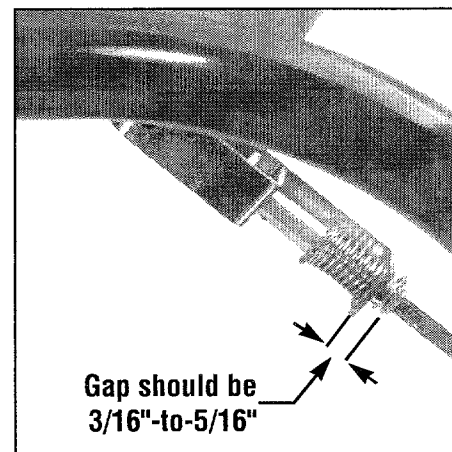

Figure 2-9: While squeezing Forward Clutch paddle, measure gap between end of bracket and E-ring.
- While squeezing the paddle, measure the gap between the E-ring and the lower end of the clutch rod bracket (see Figure 2-9). The gap should be 3/16"-to-5/16". NOTE: A stack of five pennies is approximately 5/16" thick.